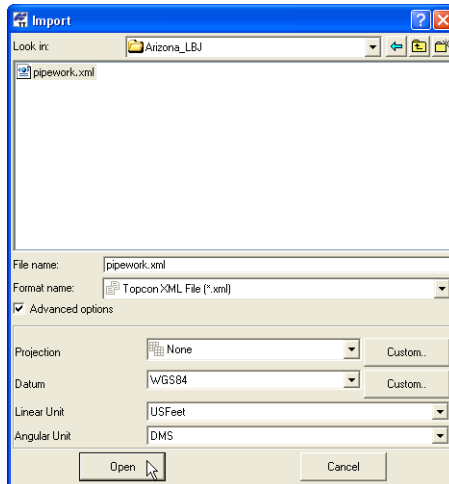

Figure 3-26. Import Topcon XML File
4. Select the desired *Advanced* options (Figure 3-26 on page 3-25): define the coordinate type, projection type, datum, and linear and angular units.